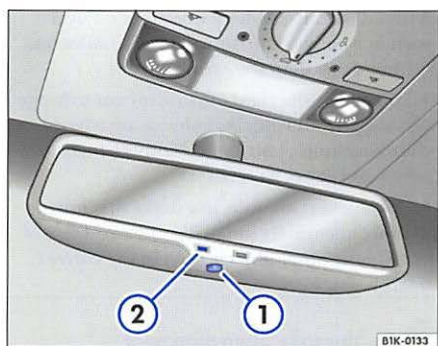

Fig. 35 Self-dimming mirror
Press the button ⇒fig. 35 ① on the lower edge of the mirror to **switch on** the self dimming feature. When the button is pressed, the green indicator light ② in the mirror comes on. The self-dimming outside mirror is controlled by the button on the inside mirror